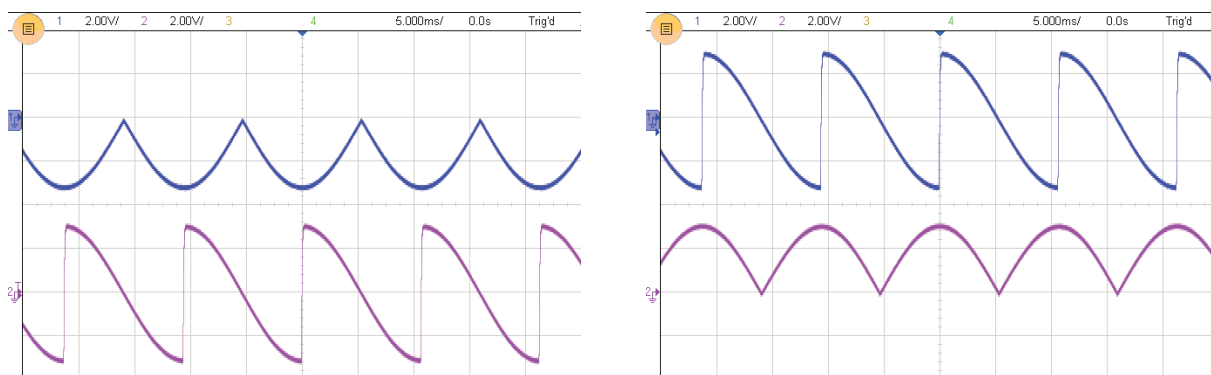

Figure 1.2: Mixer waveforms at 180° (left) and 270° phase shifts (right).
6. Press the Quadrant [+90° up] button once. Channel 1 (X) is now at 180° relative to the reference signal, as shown in Figure 1.2.
7. Press the Quadrant [+90° up] button once. Channel 1 (X) is now 270° out of phase with the reference signal, as shown in Figure 1.2.